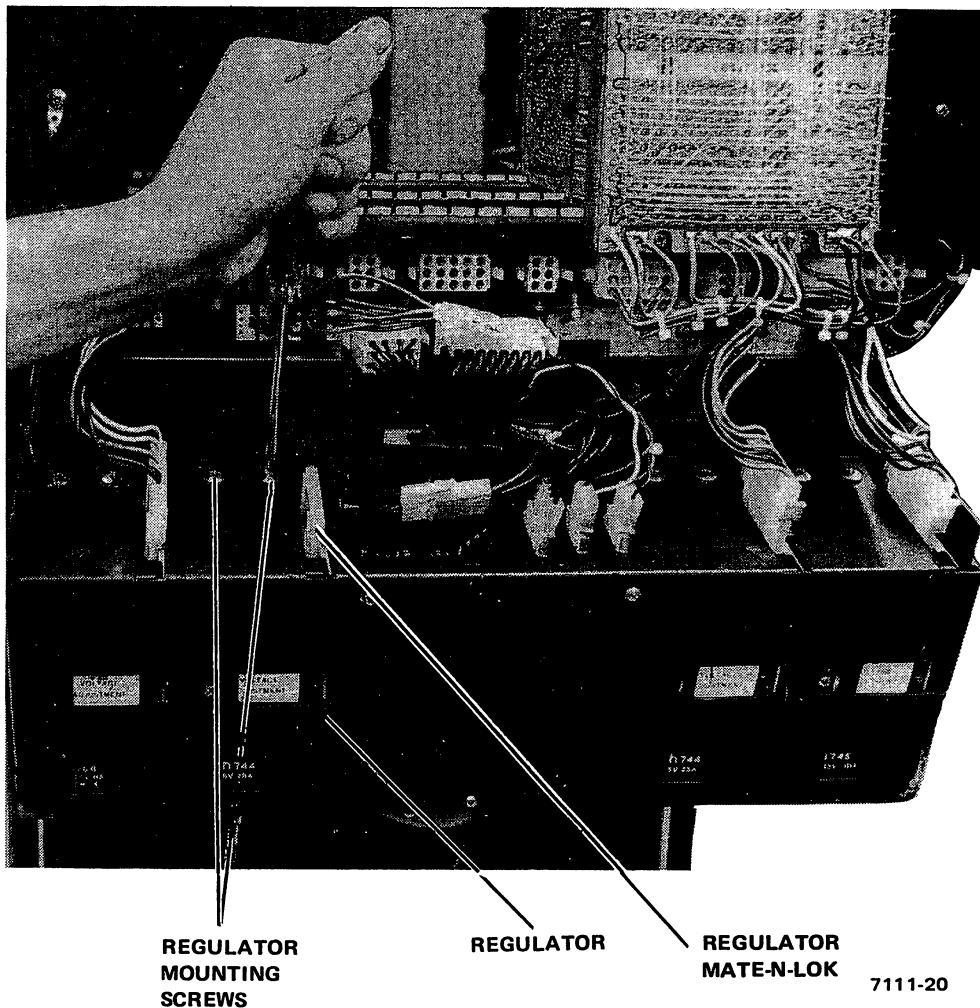

Figure 4-5 Regulator Removal
4.4.3 H744, H745, and H754 Regulator Removal (Figure 4-5)
6. Remove three screws, two on the top and one on the bottom of the regulator (Figure 4-5).